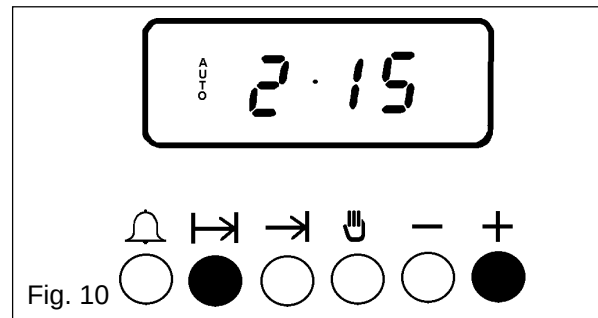

Fig. 10
- To set the length of cooking time, press the cooking hours button (H→), while holding it down, depress the increase control ( + ) until the required length of cooking time is displayed, e.g. 2 hrs 15 mins as Fig. 10. Depress the decrease control ( - ) if necessary.